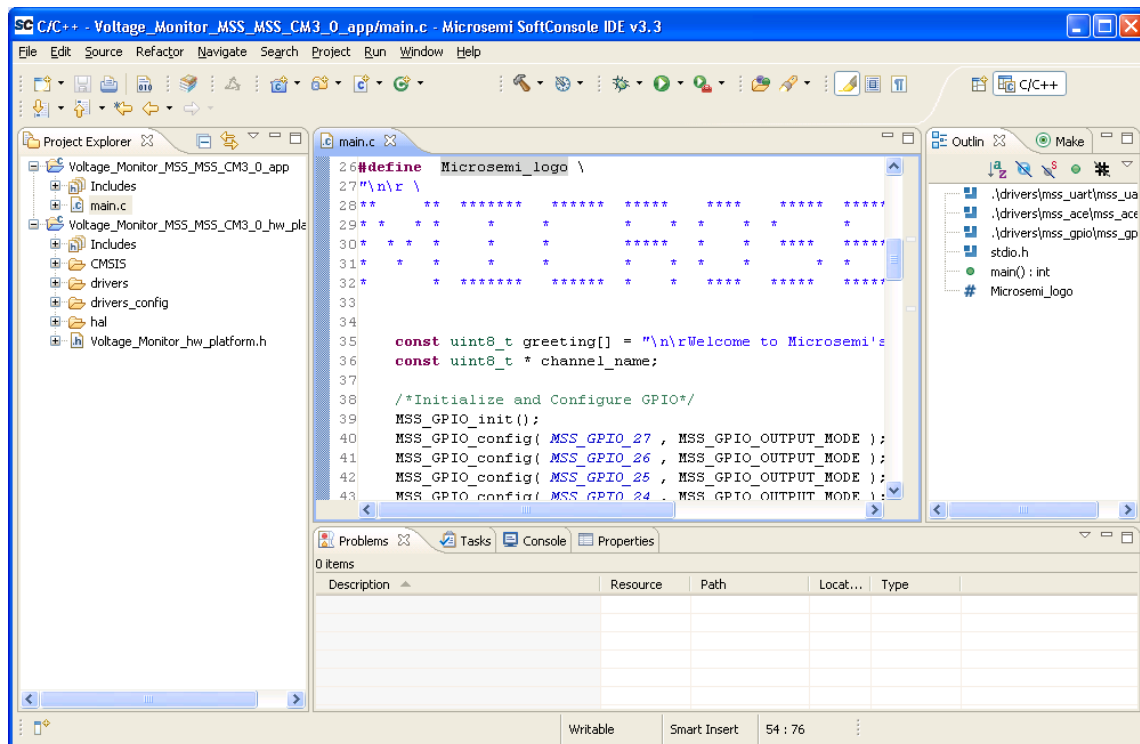

Figure 29 · SoftConsole Workspace
4. The SoftConsole window looks as shown in Figure 29 .